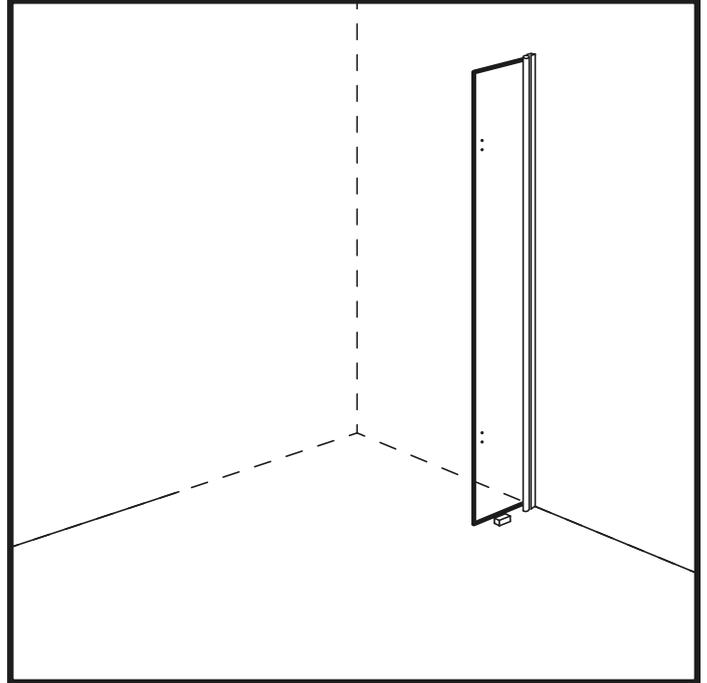

Figure 4
9. Place wooden blocks on the floor (maximum thickness 10 mm) to support the door glass from the package, which already has the manufacturer-installed single hinge attached. (Figure 4)